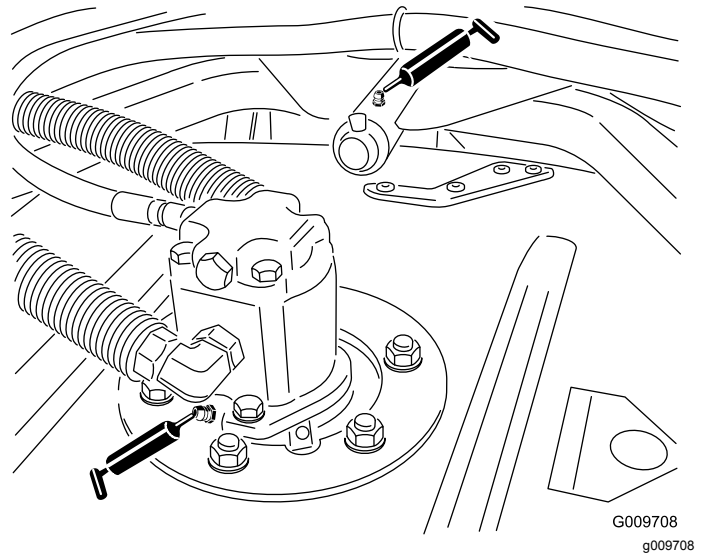

Figure 25
- Cutting unit spindle shaft bearings (1 per cutting unit) (Figure 25)
- Cutting unit carrier arm bushings (1 per cutting unit) (Figure 25)